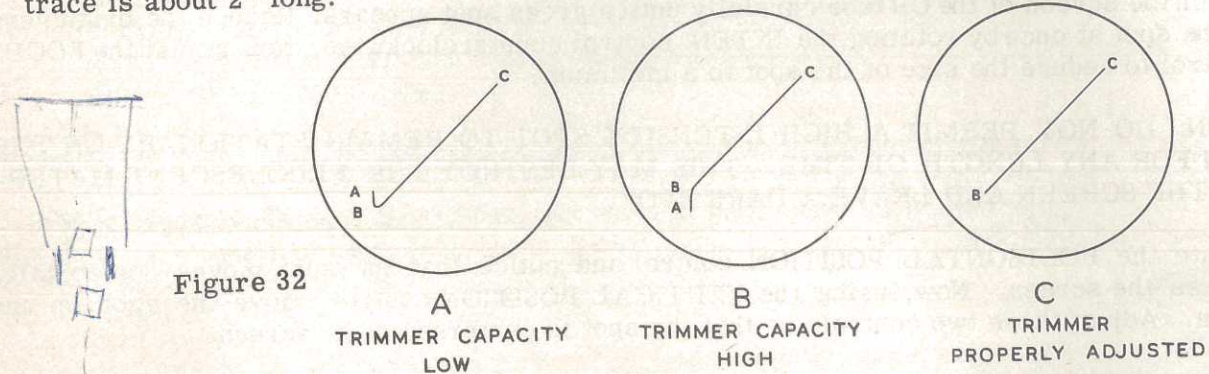

Figure 32
() Disconnect the jumper from the 1 V. P-P terminal. Turn off the power and connect the free end of the jumper to the excess lead from "HOR. IN" on the rear circuit board. Set the FREQ. SELECTOR to the line between 1000 and 10 K and the FREQ. VERNIER to 0. Now turn on the power. You should get a trace similar to that in Figure 32 A or B. Reduce both gain control settings so that the trace is about 2" long.
5. If you are unable to obtain straight diagonal lines when adjusting the vertical trimmers, please refer to Figure 32 on Page 32 of your O-12 manual. The patterns shown there present a perfectly straight line between points B and C on the traces. Some users have raised questions on this point, stating that they cannot obtain a straight line between B and C. This is perfectly normal. The indication which is significant is that portion of the trace between A and B. The intention of the adjustment is to reduce this portion of the trace to a point at the lower end of the trace, thus indicating neither overshoot or slow rise time on the sharp wave-front of the sawtooth generated by the sweep oscillator. If the remaining portion of the line bellies up or down, a readjustment of the sweep oscillator frequency will probably locate a point where the effect is changed radically. This variation is due to minor phase shift relationships in the amplifier circuits, not to defective or improper compensating.